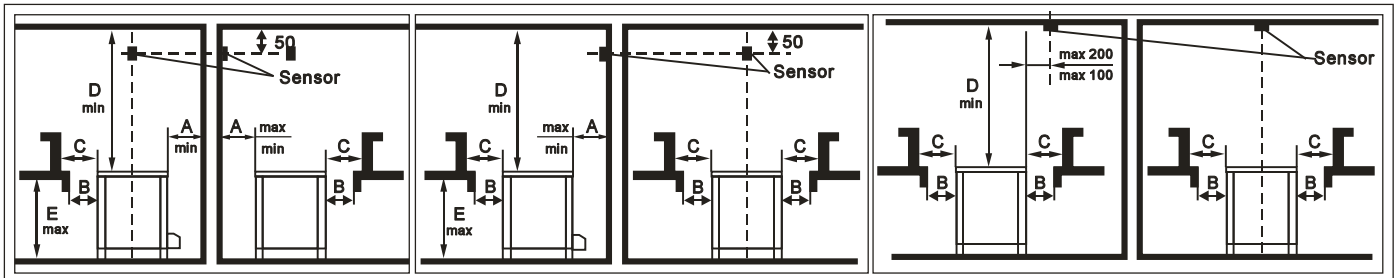

Fig 7
- The location of the heater fulfils the minimum requirements concerning the distances given in Fig 7 and chart 8, and allow for safety and convenience.